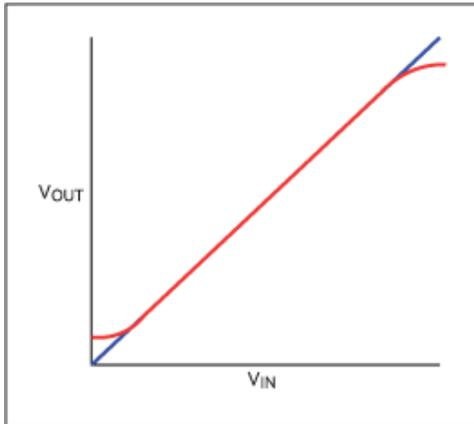

Figure 8. The transfer function, illustrating clipping and compression on the output.
**Figure 8** exhibits the result of the output-driver current limiting near the power and ground rails. The blue line is linear and the red dotted line is nonlinear. As the signal voltage approaches the rail, current is reduced until the transistor can no longer function. The op amp requires current to close the feedback loop and linearize itself. We see that the input is changing on the left and right ends, but the output cannot respond at the top and bottom of the graph. This distortion in the transfer function of the output buffer will introduce harmonic distortion.